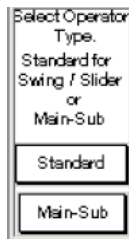
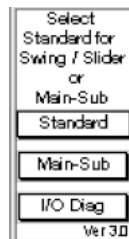
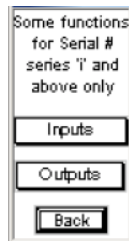

Fig. 3
Fig. 4
Fig. 9
3. For GT-01 software prior to Ver. 3, the screen in Fig. 3 will display. Choose either 'Standard' or 'Main/Sub' operator. For Ver. 3 of the GT-01 software, the screen in
Fig. 4 will display. For Main/Sub, select 'Lead Door' or 'Follow Door' on the next screen (Fig. 5), then skip to step 5.
Selecting the 'I/O Diag' button from main screen (Fig. 4), will bring you to the screen in Fig. 9. 'Outputs' will display the screen in Fig. 11.
NOTE: When using the newer GT-01 Software with an older PLC, or vice-versa, the initial startup of the GT-01 may be longer than usual and/or may display an error on the screen, it will then clear and go to the initial screen shown in either Fig. 3 or Fig. 4